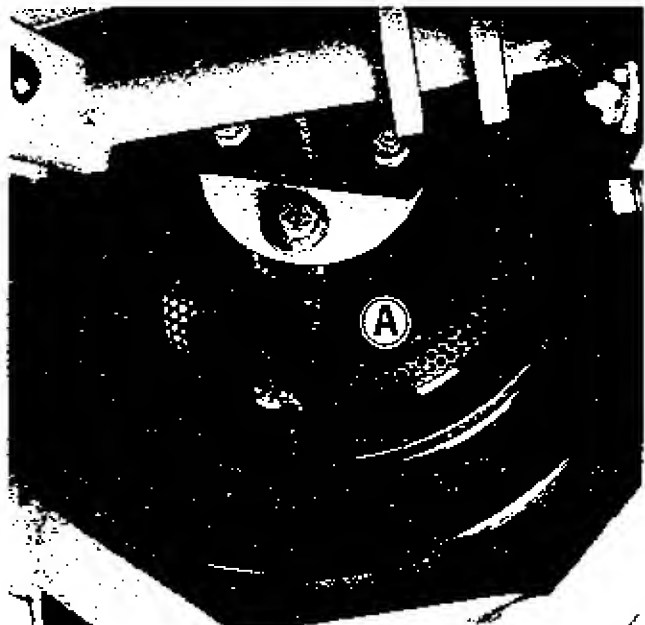

Figure 20. Engine blower screen located at rear of engine as seen from beneath tractor.
CLEAN ENGINE FINS AND SCREEN: See figure 20. The blower screen (A) must be kept relatively free of chaff, grass, etc., which would restrict the flow of cooling